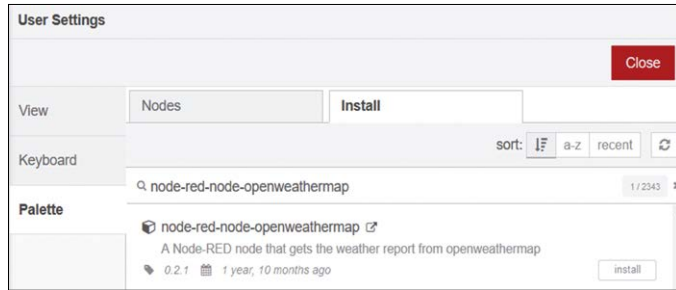

Figure 4.42 Search for the openweathermap
- Click the **Install** tab and enter the following in the search path (see Figure 4.42)